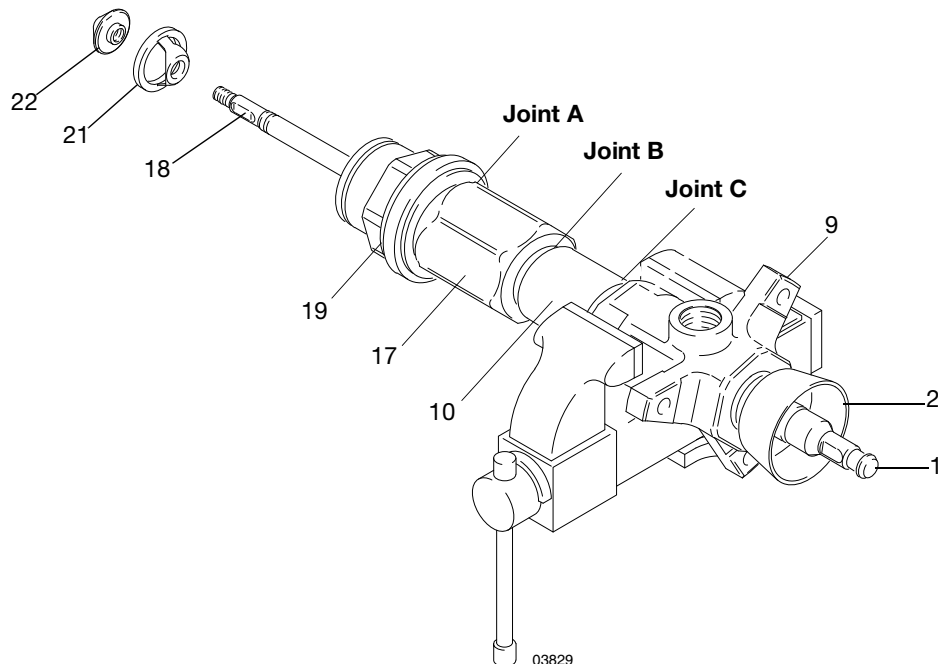

FIG. 6
2. Place the pump in a vise, with the outlet housing (9) positioned as shown in FIG. 6.
3. Hold the flats of the priming piston rod (18) with an adjustable wrench. Use a second wrench to unscrew the priming piston seat (22) from the rod. Slide the priming piston (21) off the rod. Inspect the inner and outer surfaces of the piston (21) for scoring, wear, or other damage.
4. Loosen the packing nut (2) using the wrench (109) (order separately).
5. Use a pipe wrench to unscrew the hex (19) of the intake cylinder from the intake valve housing (17).
NOTE: The pump may separate at joints A, B, or C. See FIG. 6.